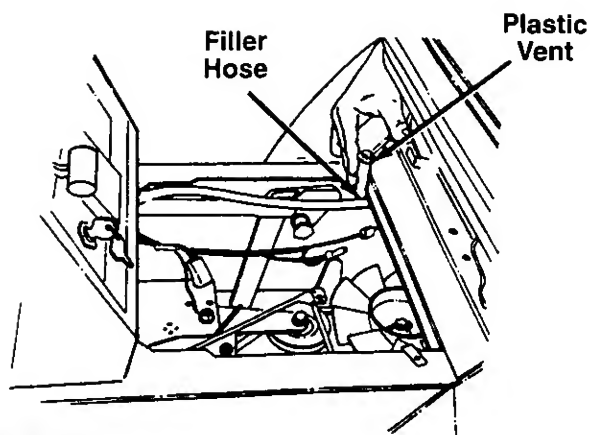

FIGURE 21.
7. Clean around filler hose (inside right frame) and bend hose upward. See figure 21.